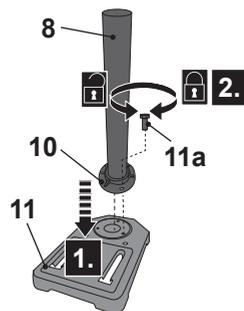

Fig. 1
1. Place the base (11) on a firm level surface.
2. Align the three mounting holes on the base (11) and support (10), then assemble the column (8) onto the base (11).
3. Secure the connection with the three mounting bolts (11a) using a suitable wrench (not provided) (Fig. 1). Do not overtighten the mounting bolts (11a).